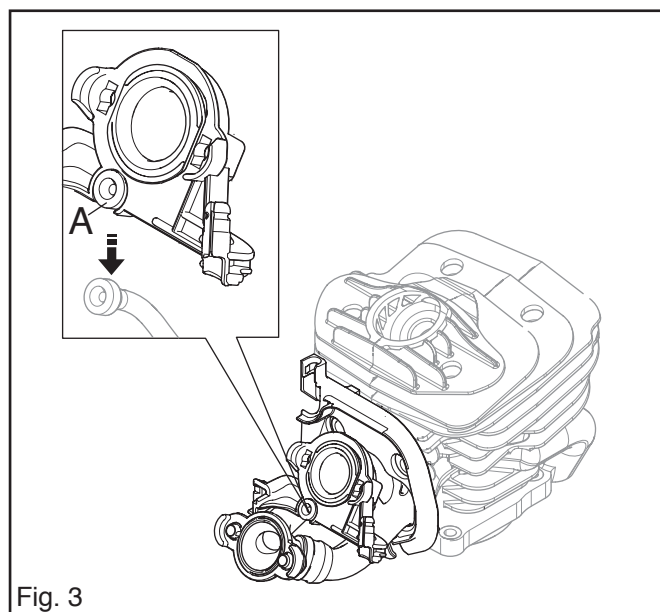
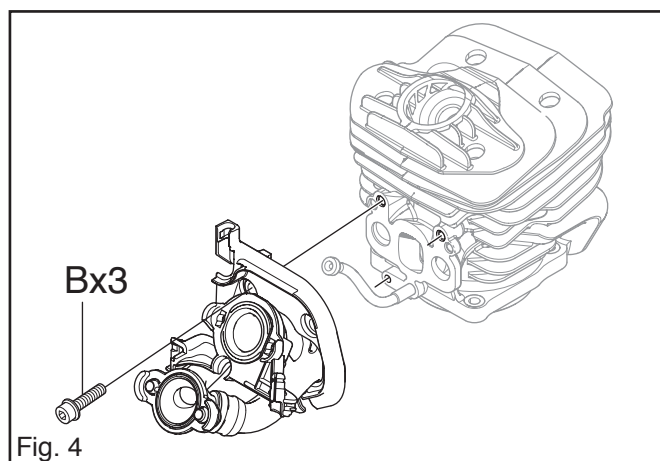

Fig. 3
Fig. 4
9. Disconnect impuls hose (A) and unscrew the intake manifold. See fig. 3 and fig. 4.